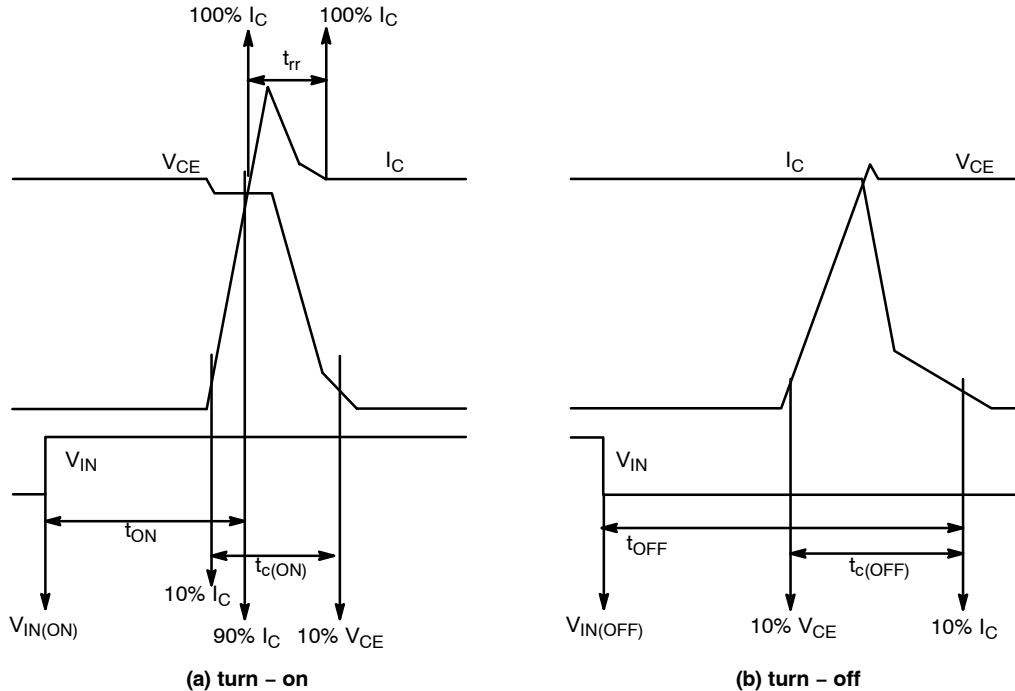

Figure 4. Switching Time Definition
7. t_{ON} and t_{OFF} include the propagation delay time of the internal drive IC. $t_{C(ON)}$ and $t_{C(OFF)}$ are the switching time of IGBT itself under the given gate driving condition internally. For the detailed information, please see Figure 4.